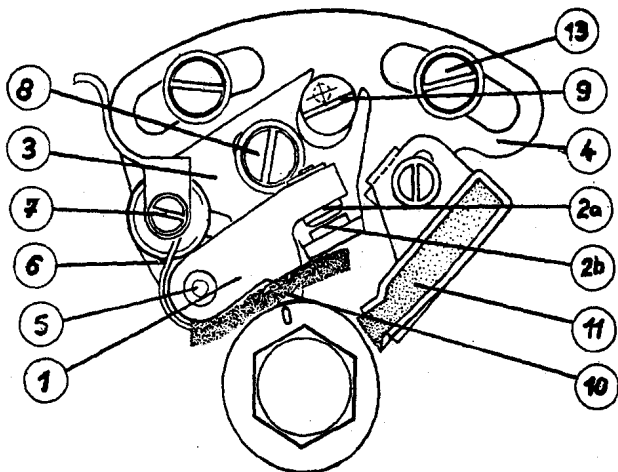

Fig. 165. Contact breaker
The design of the contact breaker is shown in Fig. 165.
Before adjusting, it is necessary to subject the contact breaker to a check. For this purpose, the contacts are removed (see Fig. 165).
When the test lamp lights up too early (e.g. between the scale values 4 and 3), the contact breaker opens too early and the adjusting plate (4) must be turned to the right in the sense of rotation after loosening the fastening screws (13). When the test lamp lights up after the scale value 3 (e.g. at scale value 2), then the contact breaker opens too late and the adjusting plate (4) must be displaced to the left opposite to the sense of rotation (see also Fig. 165).